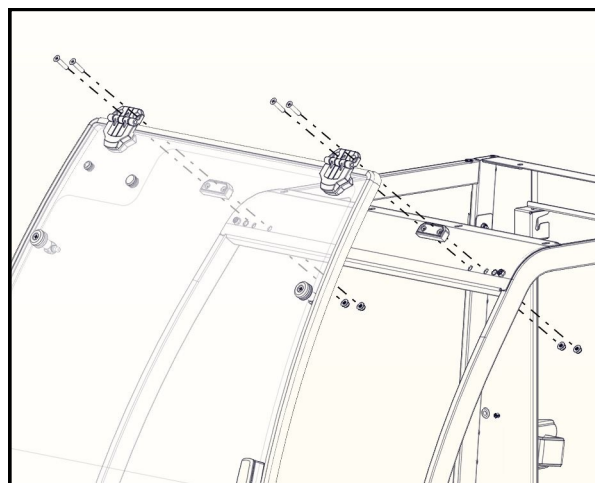

Fig. 14.1 (Windshield Installation)
**14.1** Install the windshield to the windshield support using (1) plastic spacer block underneath each upper plastic hinge to space it off the windshield support. Snug fasteners, but **do not tighten fully**. See Fig. 14.1.